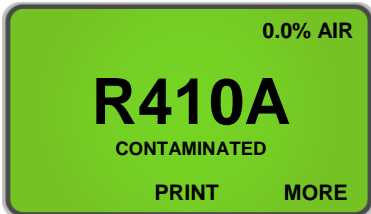
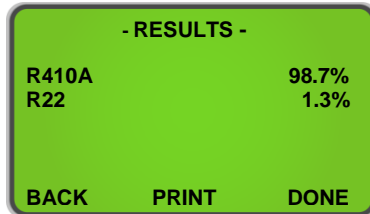
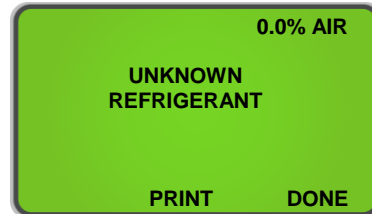

Figure 11
Figure 12
Figure 13
The *YELLOW JACKET 68940* includes the ability to detect and analyze the composition of many common R400 Series refrigerants in addition to **R22, R32, R134a** and **Hydrocarbons (HC)**. In the event that the *YELLOW JACKET 68940* determines that the primary refrigerant in the system or cylinder is one of the measured refrigerants, the results will display as follows in **(Figure 11)**. Pressing the 'MORE' button will display the detail screen shown in **(Figure 12)**. If the blend or refrigerant mixture is not recognized, the screen shown in **(Figure 13)** will be displayed. Refer to section **2.10 Print the Test Results & Channel Data** to print.